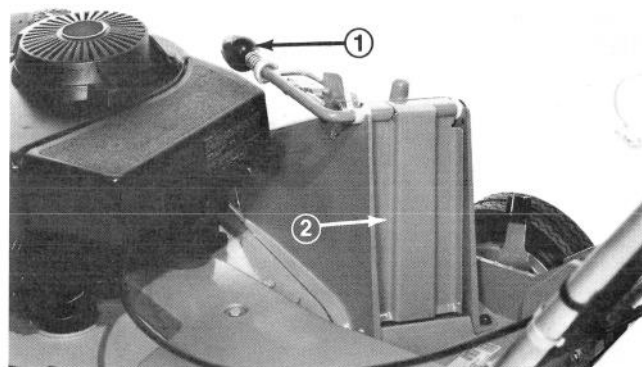

Figure 20
2. Assure chute door handle is fully forward and lockout lever is released into housing latch (Fig. 20). The chute door is now closed.